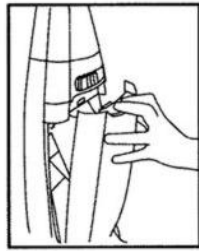

Fig. 4
- Remove the front panel of the unit. (Fig. 4)